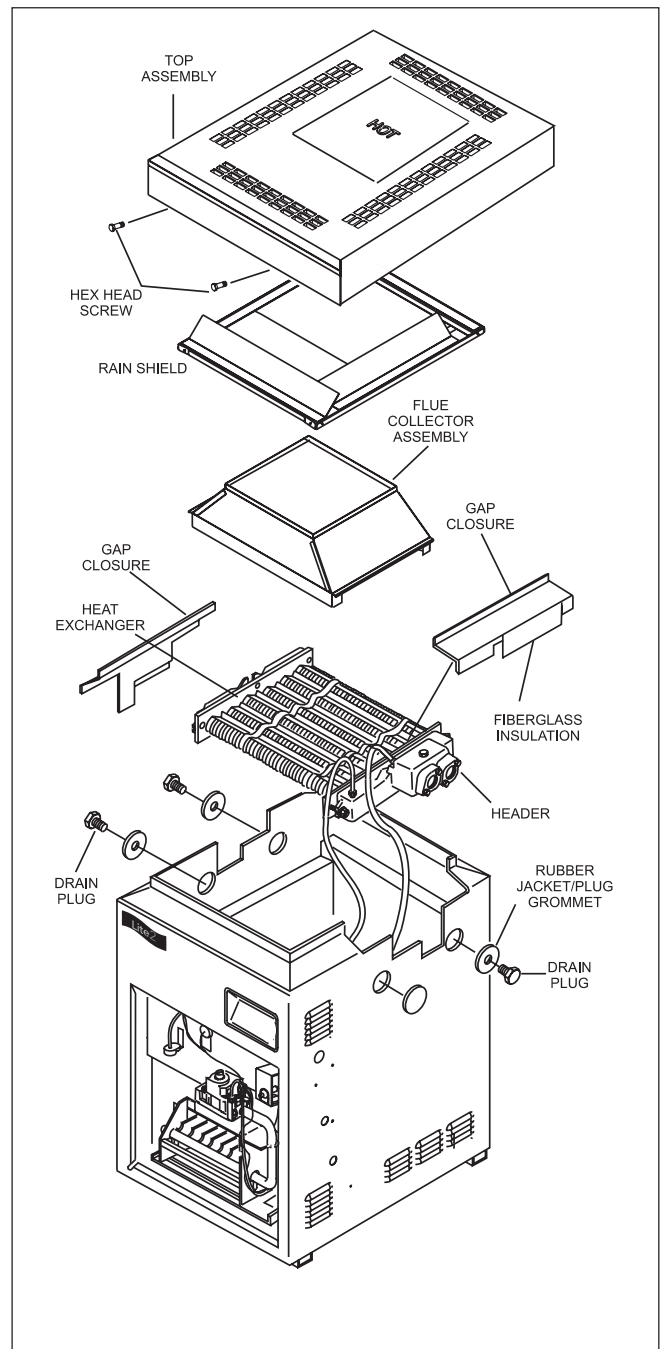

Figure 7. Heat exchanger reversal.
2. Remove all 8 hex-head screws fastening the top and lift the top assembly straight up (see Figure 7).
6. Remove the three rubber jacket/plug grommets and drain plugs (see Figure 7). One is located under the water connections on the right side. The other two are on the left side of the heater.
7. Tag and disconnect the white wire on the pressure switch (PS) and the white wire on the Fireman's switch terminal which leads to the high limit switch.